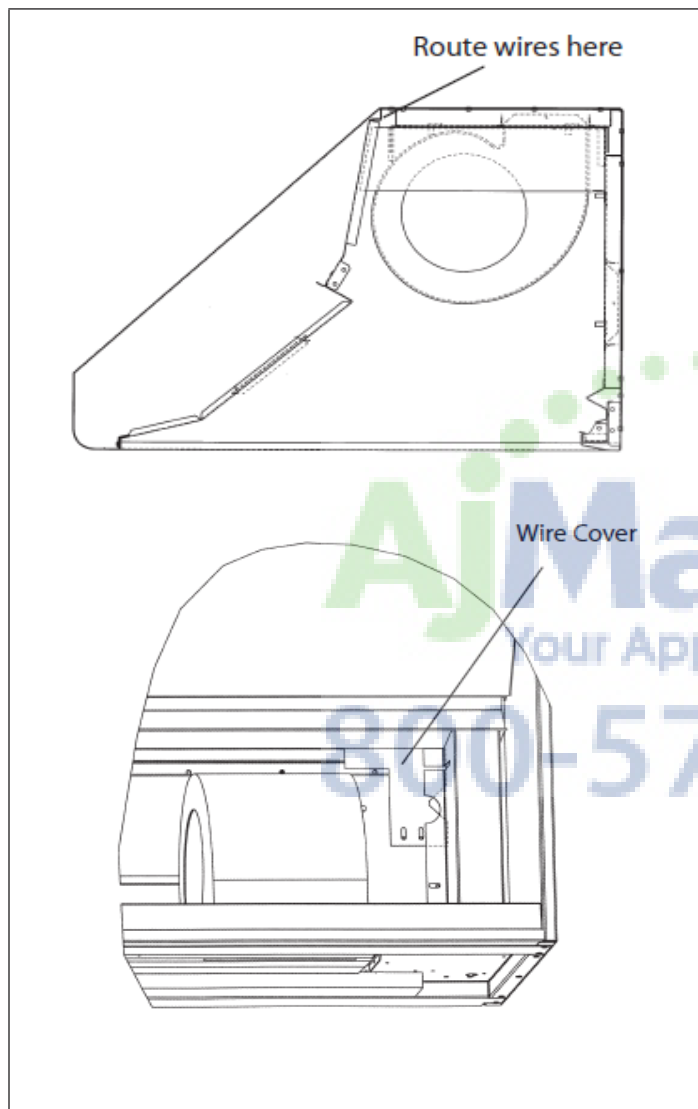
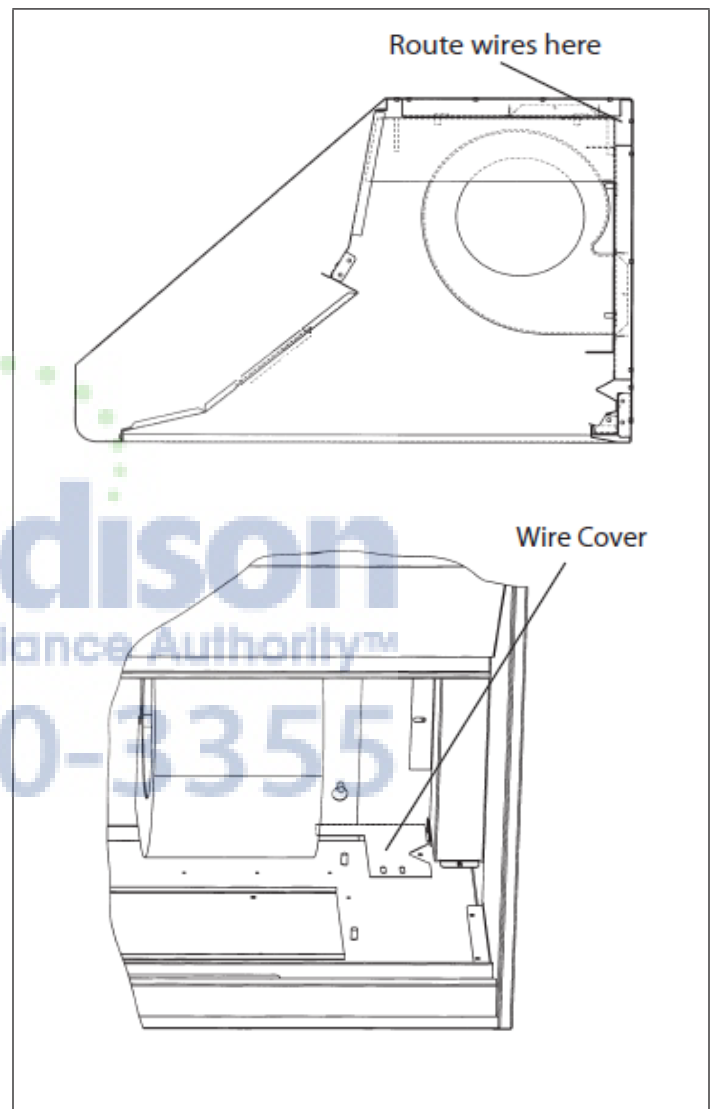

Figure 16: Vertical Discharge
Figure 17: Horizontal Discharge
12. Remove junction box channel covering the wires (see Figure 16 and Figure 17).
Install wire cover per Figure 16. The PH30HS model does not need a wire cover.
Install wire cover per Figure 17. The PH30HS and GS models do not need a wire cover.